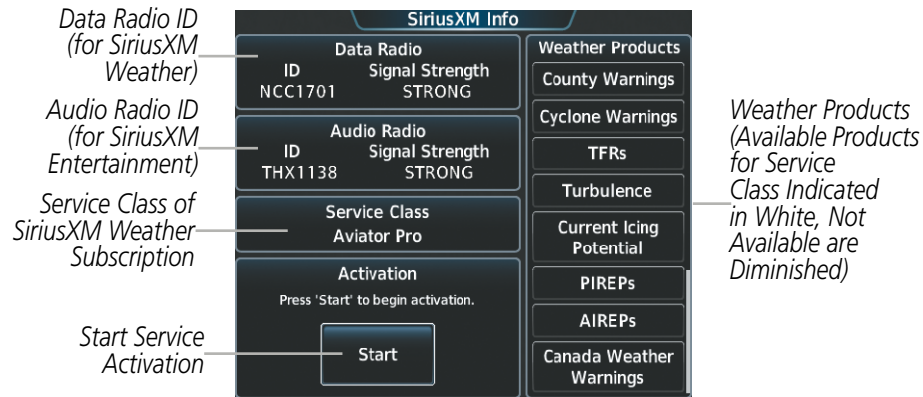

Figure 6-1 SiriusXM Info Screen
- The SiriusXM Info Screen on the Touchscreen Controller (Figure 6-1)
- 2) Note the ID shown in the Data Radio Window as seen in Figure 6-1.
- 3) Touch the **Start** Button in the Activation Window (Figure 6-1). The Activation Window shows 'ACTIVATING' while processing the activation.